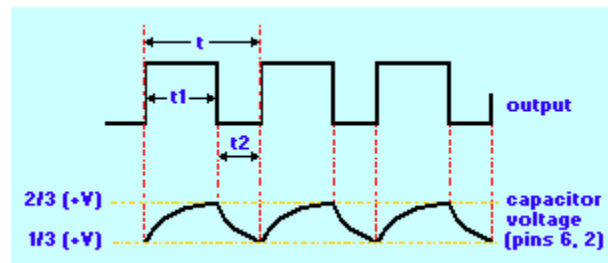

Figure 2- Typical Waveform
- 5) Connect an o-scope to Pin 3 and Pin 2 and verify the diagram in Fig 2.